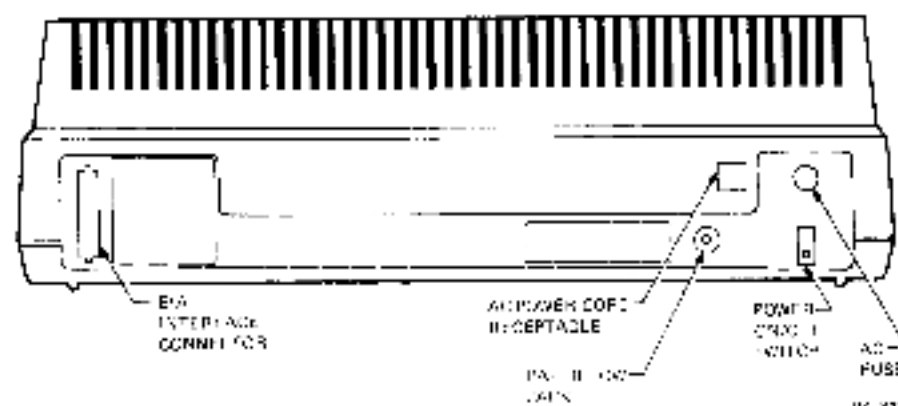

Figure 2-11 LA34, Rear View
1. Connect interface cable to the interface connector on rear of terminal (Figure 2-11).
2. Plug the ac power cord into the ac power receptacle on the rear of the printer (Figure 2-11). Then plug the ac power cord into a nonswitched, three-prong, grounded wall receptacle.
1. While holding the **SET-UP** key down, set the power **ON/OFF** switch to **ON** (Figure 2-11). Note that the **SET-UP** indicator remains on for up to nine seconds. If the conditions in the above note do not apply, simply set the power **ON/OFF** switch to **ON**.